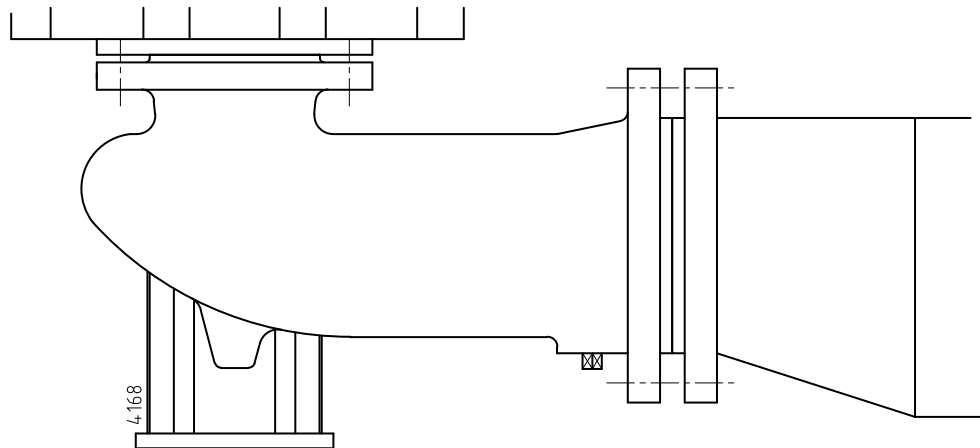

Figure 3: Eccentric reducer to suction flange.
- If the inside diameter of the suction pipe is larger than the suction connection of the pump, an eccentric reducer should be applied to prevent air pockets and whirls. See figure 3.